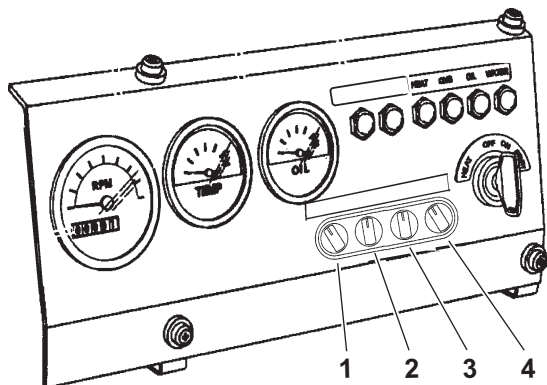

Figure 13-5
A certain ON/OFF combination of switches (1) - (4) on the operator's console **Figure 13-5** will implement this optional feature. For details, see the operation manual for the driven machine.
Other optional features can be provided by selecting certain ON/OFF combinations of switches (1) - (4) on the operator's console **Figure 13-5** will implement this optional feature. For details, see the operation manual for the driven machine.